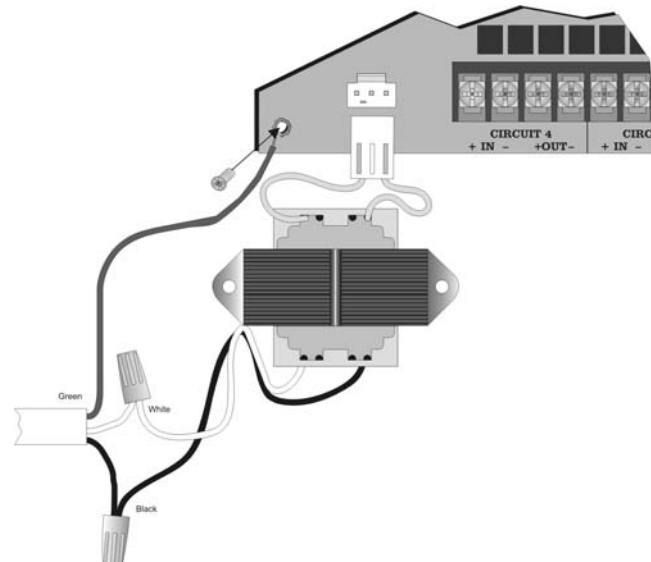

Figure 4-19 AC Connections
4. Connect AC to the Transformer as Shown in Figure 4-19.
5. Plug the transformer output to the AC connector on the control panel as shown in Figure 4-19.